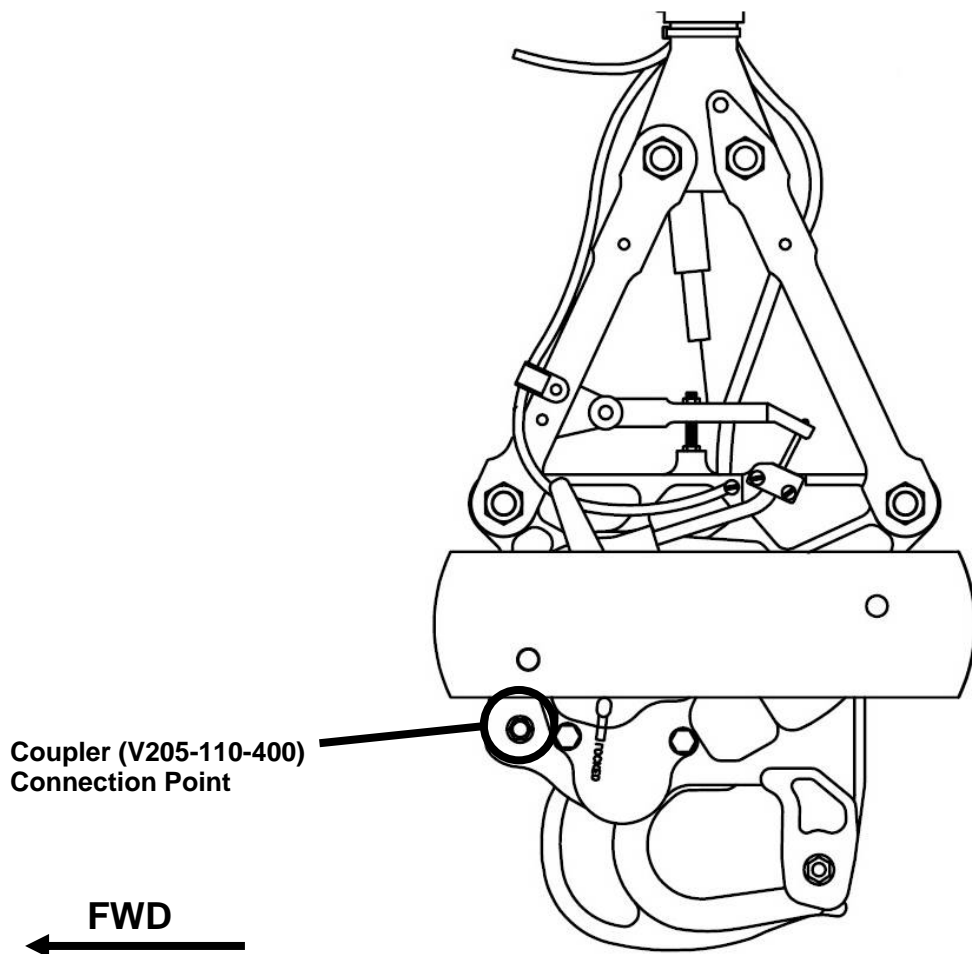

Figure 6: Keeperless Hook Coupler Connection Point
1. Remove the existing hardware at the connection point shown in Figure 6.